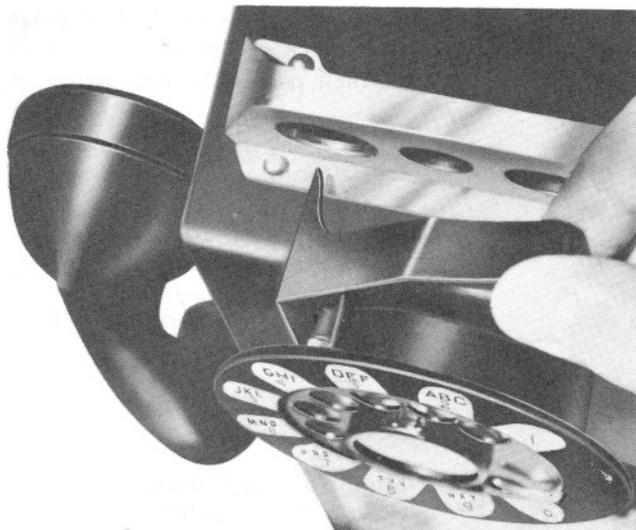

FIG. 2—METHOD OF INSTALLING P-14A544 COIN DEFLECTOR
5.22 The P-14A544 coin deflector replaces earlier D-158436 coin deflector. It consists of a black metal band so formed that it is easily snapped over top of 56A dial adapter. Fig. 2 shows deflector being installed; Fig. 3 shows it in place.